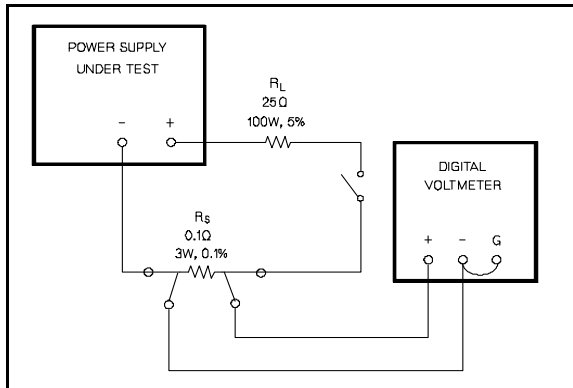

Figure A-4. Output Current, Test Set Up
- Connect the test setup shown Figure A-4 to the V1 supply's + and - output terminals.
- l. Connect the test setup shown in Figure A-4 to the V1 supply's + and - output terminals. Substitute a short for R_L and leave the load switch open.
- Connect the test setup shown in Figure A-4 to the output of the supply to be adjusted. Substitute a short for R_L and leave load circuit switch open.